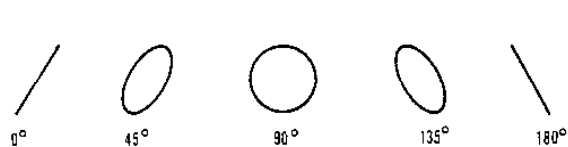

Figure 3. 1:1 Ratio of Lissajous Patterns
- Fig. 3. 1:1 Ratio of Lissajous Patterns. . . . 7
LISSAJOUS PATTERNS: Another type of fundamental pattern is obtained when both the vertical and horizontal deflection voltages are sinewaves that are related in frequency as follows: one frequency is a whole number of times larger than the other; one frequency is a simple fraction of the other. When one or the other of these conditions is fulfilled, stationary closed-loop patterns are obtained. These patterns are called Lissajous figures after the 19th century French scientist. They are particularly useful in determining the frequency ratio between two sinewave signals. If the frequency of one signal is known, the frequency of the other signal can be easily determined from the frequency ratio. Usually the known signal is applied to the horizontal channel and the unknown signal to the vertical channel. The shape of the pattern changes with the phase relationship between the known and unknown signals. For example, all the patterns shown in Fig. 3 (and those intermediate) are possible with a frequency ratio of 1:1 if the phase differences indicated exist.